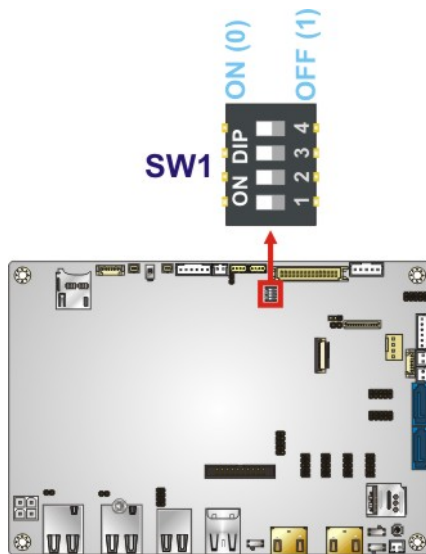

Figure 4-17: LVDS Panel Type Selection Switch Location
- Jumper Location:** See Figure 4-17